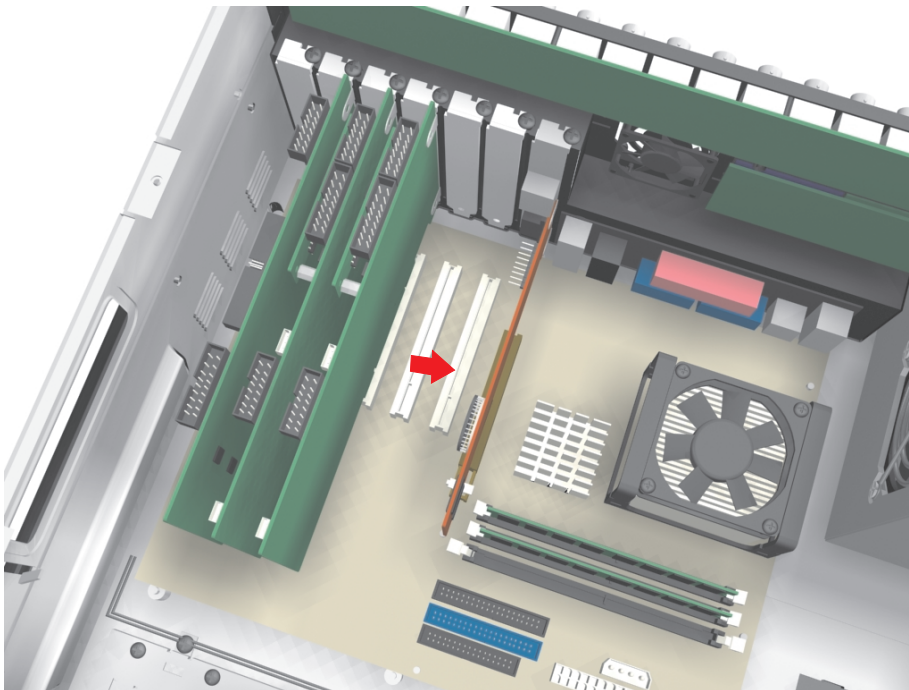

Figure 9. Location of PCI Slot 1
1. Locate PCI Slot 1 on the system motherboard. This is the expansion slot that is closest to the system's VGA card. Refer to Figure 9.